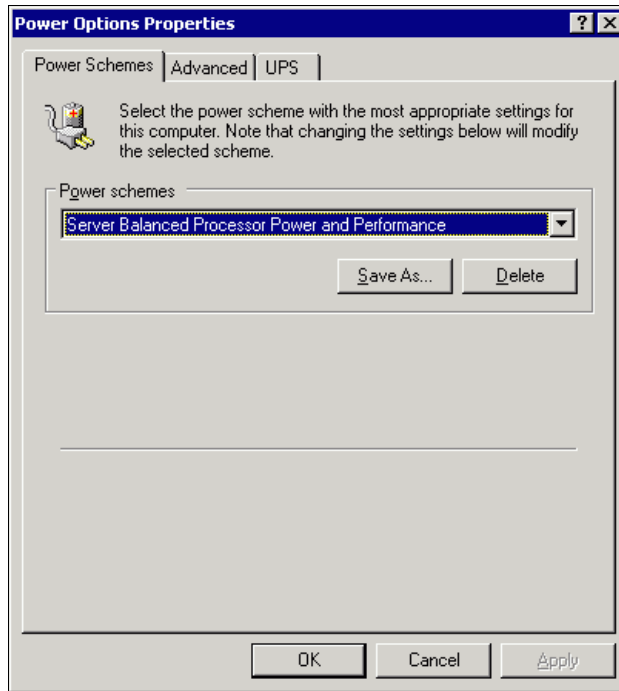

Figure 3-10 Windows Power Options
- ▶ Power Options Properties windows, shown in Figure 3-10 on page 104.